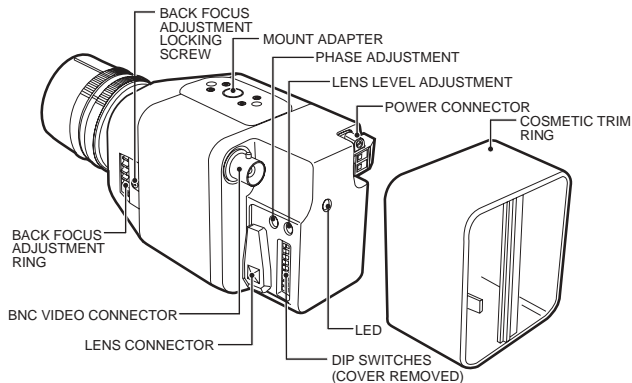

Figure 1. Camera Layout
2. Remove the cosmetic trim ring from the back of the camera (refer to Figure 1). Set the lens mode selector switch on the side of the camera to AIV (auto iris video drive lens) or AID (auto iris DC drive lens). Refer to the Switch Settings section. Switch setting is determined by the type of lens used.
1. Remove the cosmetic trim ring from the camera (refer to Figure 1). Thread cabling through the rear cover.
When a direct drive lens is used, the lens mode selector switch must be set to AID. Switch the ESC and AGC OFF. Use an appropriate screwdriver to turn the lens level potentiometer (refer to Figure 1) fully clockwise. Next, slowly adjust the potentiometer counterclockwise until the optimum picture is obtained (video output level of 1V peak-to-peak). Switch the AGC ON. To focus, fully open the iris by covering the lens with a suitable neutral density (ND*) filter. Select the scene to be viewed. If the viewed scene is 6.5 feet (2 m) away or farther, set the lens focus to infinity (far). Use the back focus adjustment ring (refer to the *Back Focus Adjustment* section) and focus on the selected scene. Remove the ND filter and set the lens focus as required.